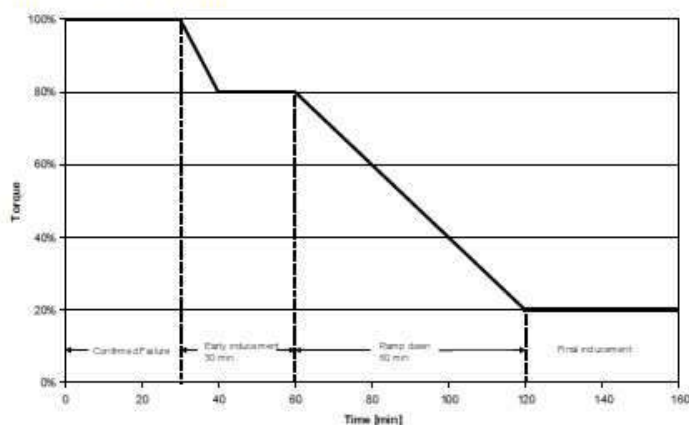
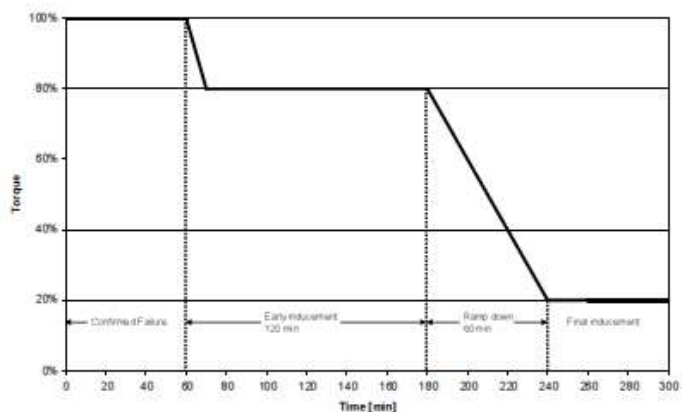

Figure 1 Low DEF warning and inducement sequence
Figure 2 Incorrect DEF quality and tampering warning and inducement sequence
The time sequence of warning and inducement is shown in Figure 1. Total time until final inducement is 120 minutes.
The time sequence of warning and inducement is shown in Figure 2. Total time until final inducement is 240 minutes.
The time sequence of warning and inducement is identical to section 3 as shown in Figure 2, above. Total time until final inducement is 240 minutes.
Inducement override is only possible between the start of the inducement sequence and final inducement engine operation. Once the engine reaches final inducement according to section 5.2 (1000 RPM, 20 % torque), the override function will be deactivated. Consequently, the override function will principally not extend the ramp times, as shown in figures 1 and 2. During engine operation with active override, the inducement system will continue to calculate inducement times, engine demand speed and engine demand torque in the background.
- Move lever of ball valve (D) from position "normal operation" (1) Fig. 1, to position "telescopic boom locked" (2), Fig. 2.
- Move lever of ball valve (B) from position "normal mode" (1) Fig. 1, to "lock out" position (2), Fig. 2.
- Move lever of ball valve (C) from position "normal operation" (1) Fig. 1, to "lock out" position (2), Fig. 2.